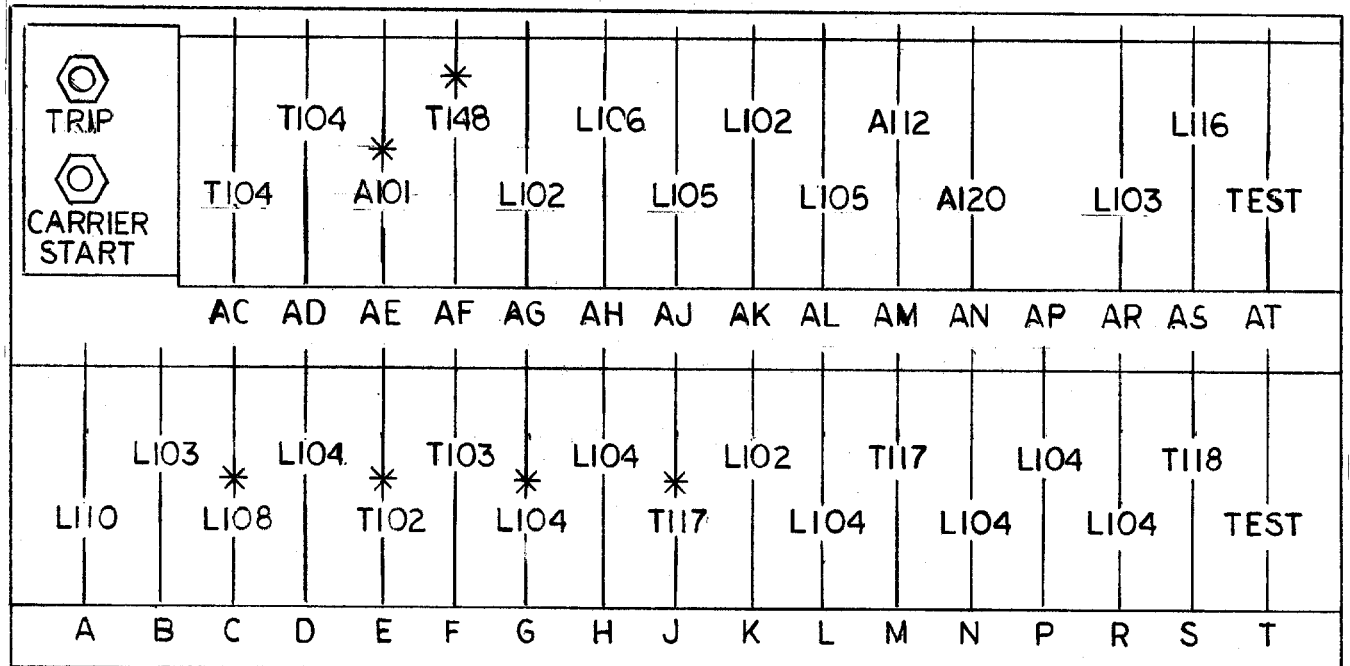

FIG. 3 (0269A3105-0) Component Location Diagram for the Type SLA51L Relay
Other logic options are selected by means of taper tip jumpers and matrix blocks. These matrix blocks are located in the rear of the unit as shown in Fig. 3. The green (G) matrix block has ten points in two 5-point common groups. The black (B) matrix block has 20 individual matrix points. The red (R) block has 20 points which are grouped in pairs. The yellow (Y) block has 20 points which are grouped in 10 common points; 1 to 10 are tied to +15 volt d-c, 11 to 20 are tied to reference. The white matrix block has 20 individual matrix points. A tool for inserting and removing the taper tip jumpers is supplied with each relay.